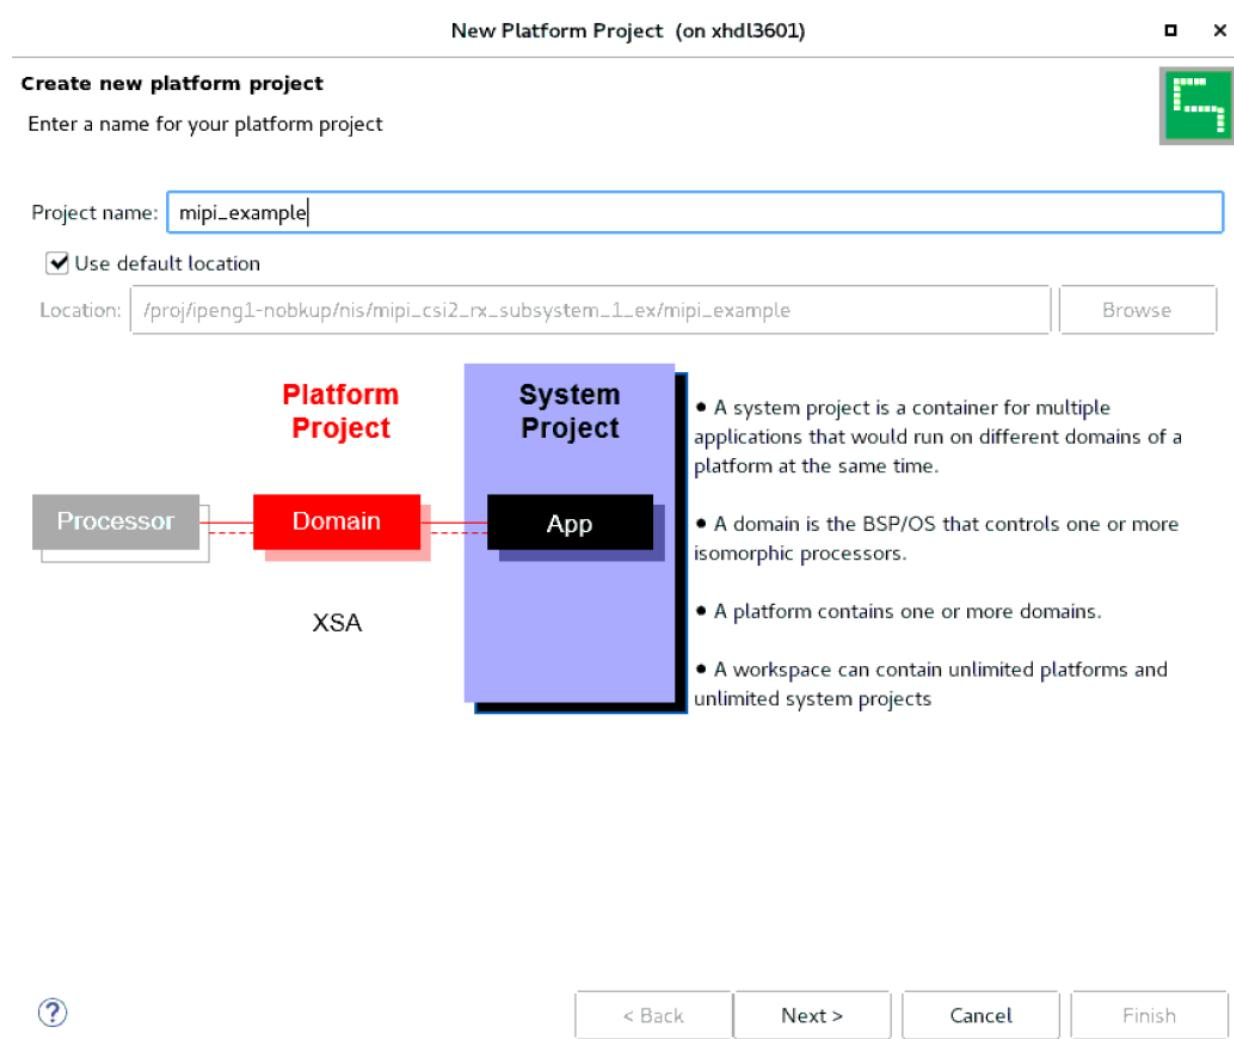
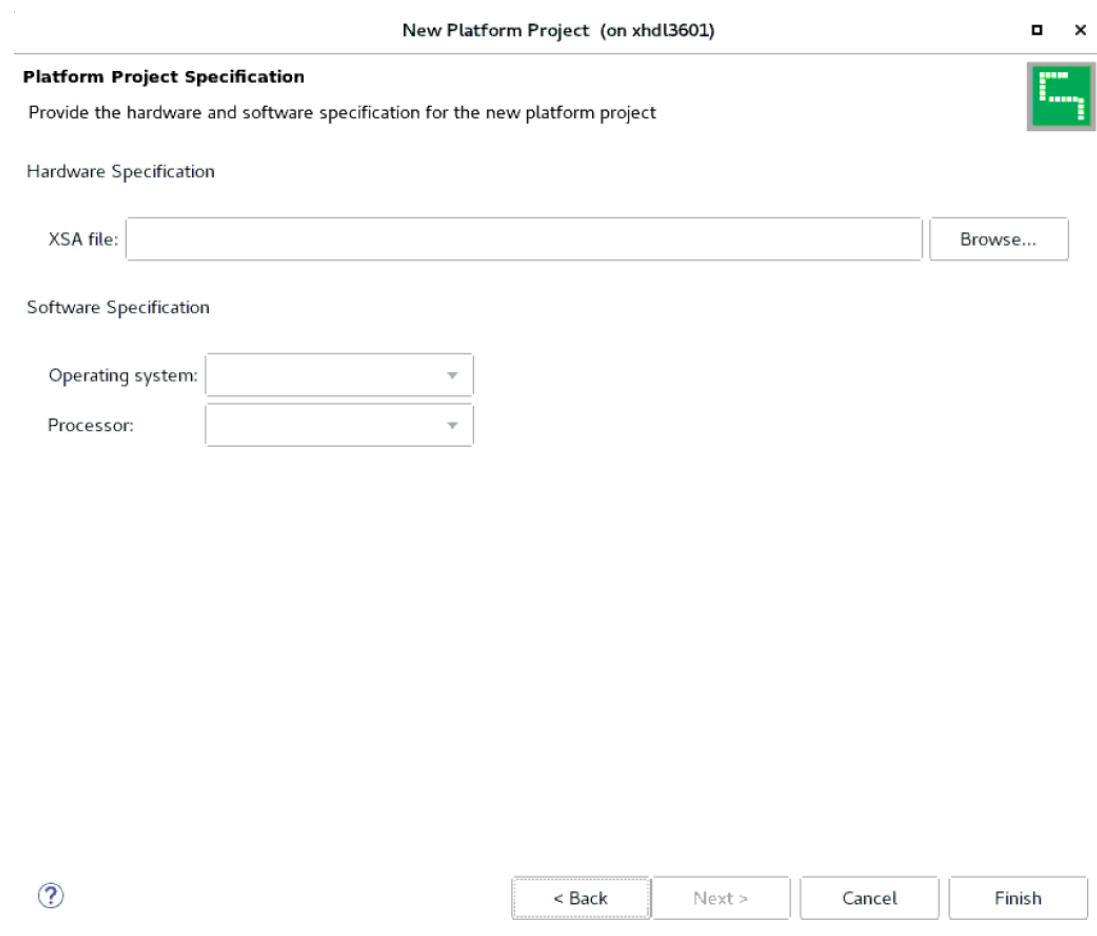

Figure 5-26: Create a New Platform
Figure 5-28: **Browse to the xsa Path**
18. To create a new platform project using the generated .xsa file, click on the **Create new platform** tab in the Vitis window and follow the steps shown in Figure 5-26 to Figure 5-28.